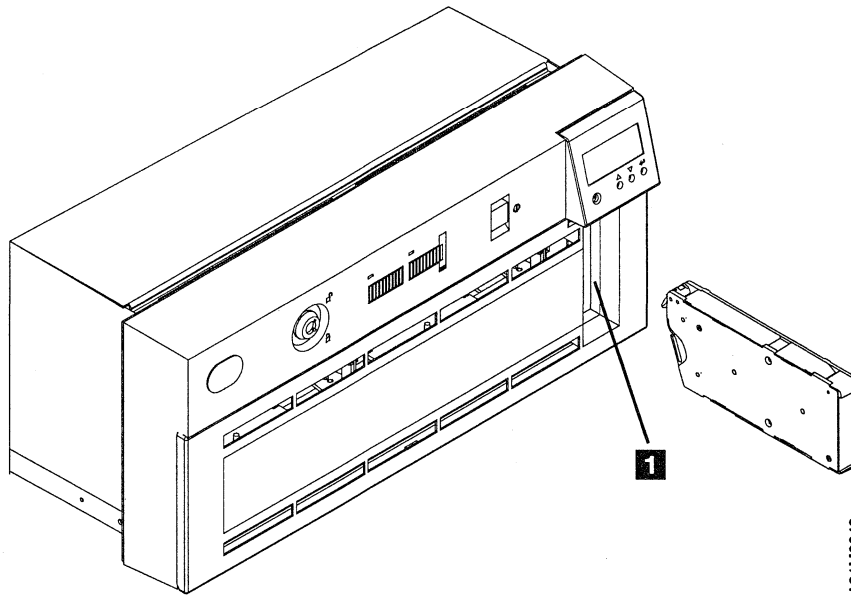

Figure 70. Location of Priority Cell in Models C21 and C22
\_\_\_ **Step 16.** Load a scratch cartridge through the priority cell (see **1** in Figure 70 on page 98) to the import position by pushing it gently into the priority cell until it comes to a stop and even with the front of the magazine. Select START from the main **OPTIONS** menu.
- \_\_\_ **Step 41.** Load a media cartridge through the priority cell (see Figure 70 on page 98) to the import position by pushing it gently into the priority cell until it comes to a stop, and even with the front of the magazine.